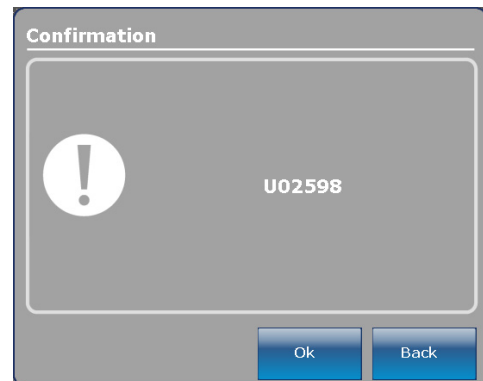

Figure 33: Serial Number Confirmation Screen
3. After pressing the **Continue** button, the serial number will be saved and the serial number Confirmation screen (Figure 33) will be displayed. Press the **OK** button.